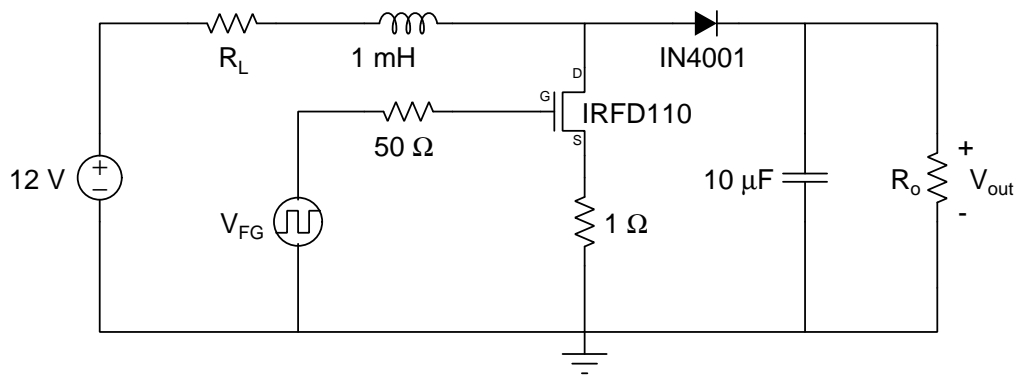

Figure 3: Boost converter circuit for NGSpice simulation and for implementation.
- Use NGSpice to simulate the boost converter circuit shown in Figure 3. Include the ESR of the inductor. Also include a  $1\ \Omega$  resistor between the S terminal of the transistor and ground to allow for the simulation of the current through the transistor.
1. Build and test the boost converter circuit shown in Figure 3 using the component values and FG settings determined in step 2i of the Pre-Lab.